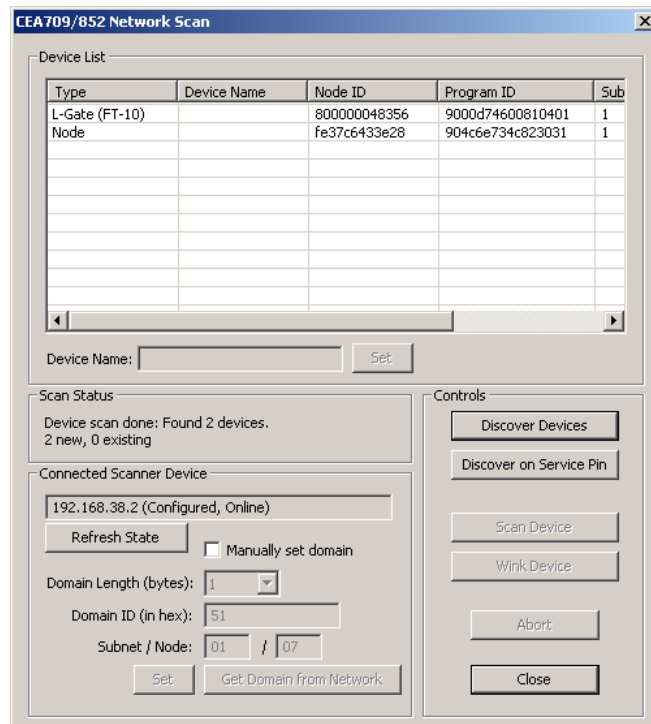

Figure 106: CEA-709 network scan dialog.
- Right-click on that folder and select **Scan CEA709/852 Network....** This opens the CEA709/852 Network Scan dialog as shown in Figure 106.